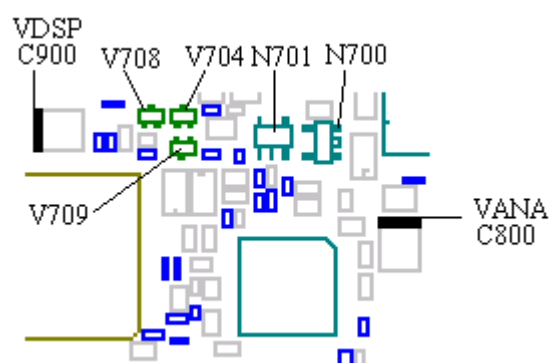

Fig. 3.4
Fig. 3.4 shows the measuring point for VANA and VDSP.
- * The REGON signal probably comes from one of the regulators or from V704, V708 or V709 (fig. 3.4) if there's no voltage at V702 pins 2 and 3. Replace a component at a time and check after every component replaced.
Check the VANA and VDIG voltages (~3.2V, fig. 3.4 and 3.3).